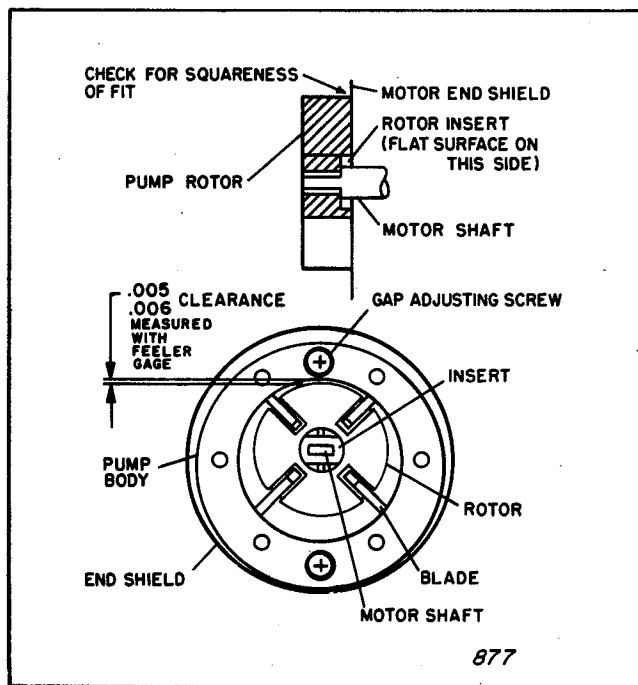

Figure 11. Checking Clearance of Air Pump Rotor
- a. Install the insert in the pump rotor as shown in Figure 11, then assemble rotor on the motor shaft. When installing the rotor, take care to keep it perpendicular to the motor shaft. Attach the pump body to the motor with the two recessed screws which were removed to take it off.
- b. Adjust the pump body to provide 0.005 to 0.006 inch clearance at the point shown in Figure 11. Measure the clearance with a feeler gage. Spin the motor by hand to be sure the rotor does not rub on the pump body. The proper clearance must be maintained. Be sure the recessed screws are tight after adjusting.